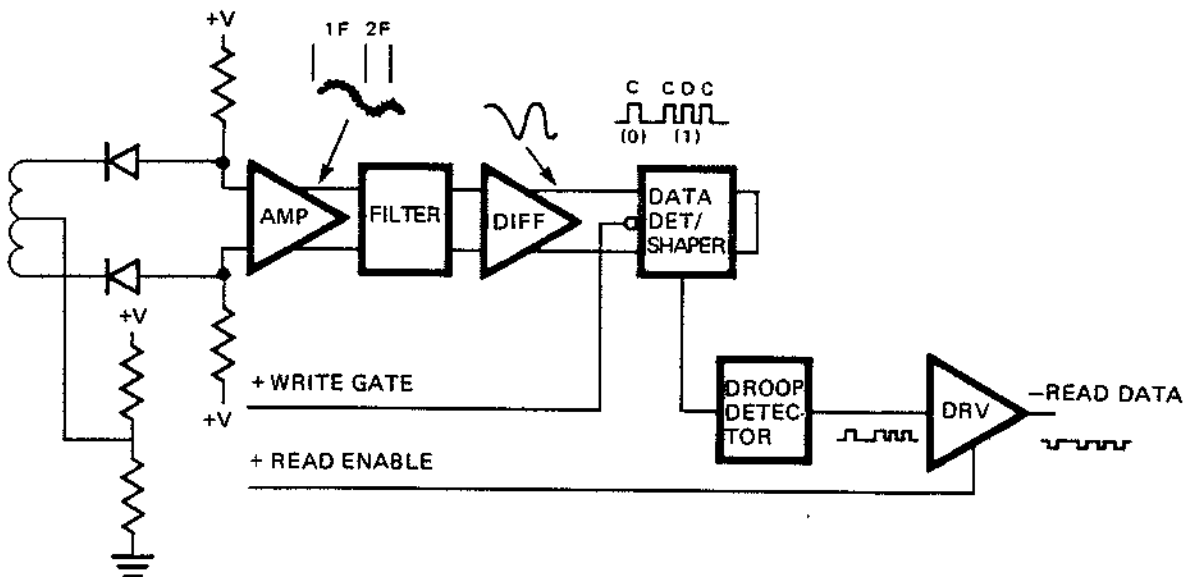

FIGURE 25. READ CIRCUIT FUNCTIONAL DIAGRAM
10.0 READ CIRCUIT OPERATION (FIGURE 25)
10.2 Since a pulse occurs at least once every $8 \mu s$ and when data bits are present once every $4 \mu s$, the frequency of the read data varies. The read signal amplitude decreases as the frequency increases. Note the signals on Figure 25. The differential amplifier will amplify the read signals to even levels and make square waves out of the read signals (sine waves).